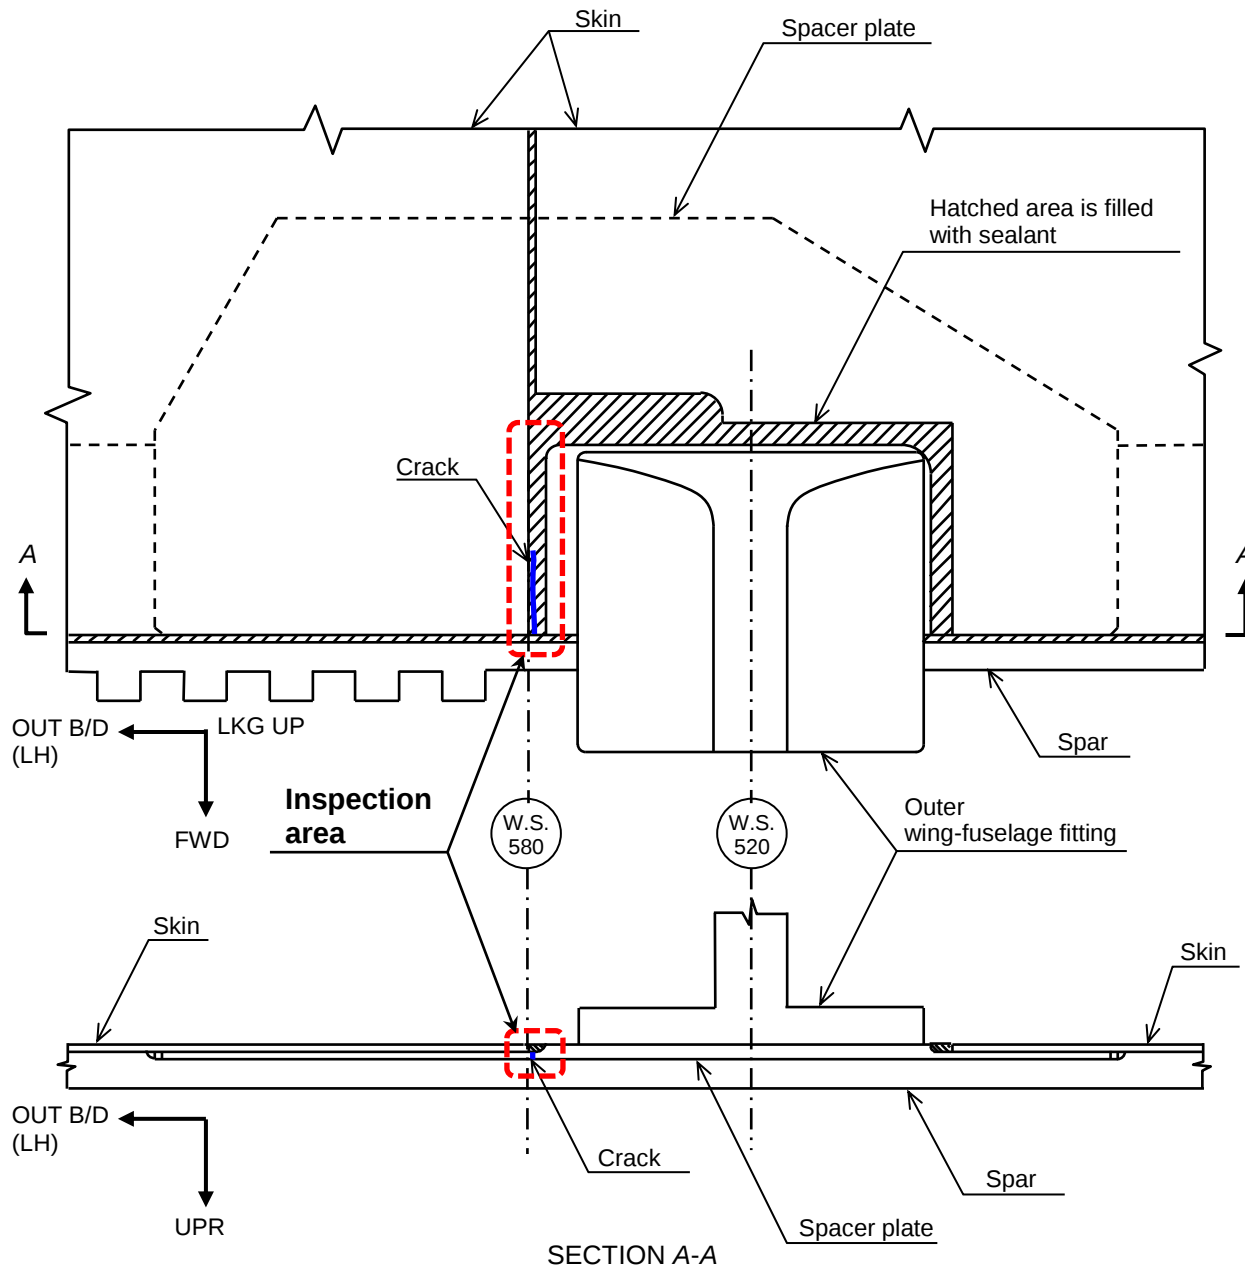

Figure 2: DETAILED INSPECTION AREA OF SPACER PLATE
- (17) Apply sealant to fill the gaps between the spacer plate and the skin shown by the hatched area in Figure 2 in accordance with applicable Maintenance Manual.